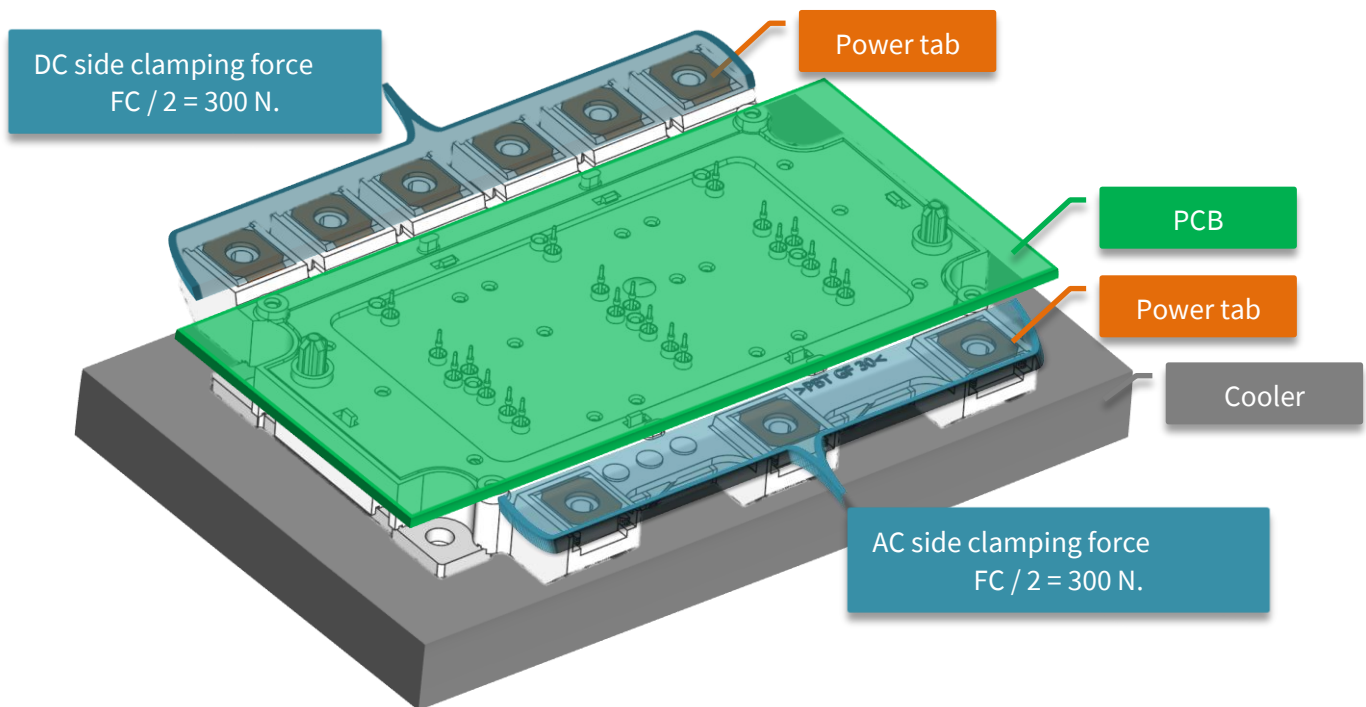

Figure 10: Indicated area where module can be normally clamped/hold down to the cooling system during the baseplate screw process.
- 2. Module Clamping:** After the power module (with PCB) is placed onto the cooling system the module should be clamped in z axis of the module with a total force of **$F_c = 600\text{ N}$ (300 N per AC/DC side)**. The clamping can be performed in the area where the power tabs are located (see Figure 10). It is important that the PCB or the pins are not further pushed down during the clamping.